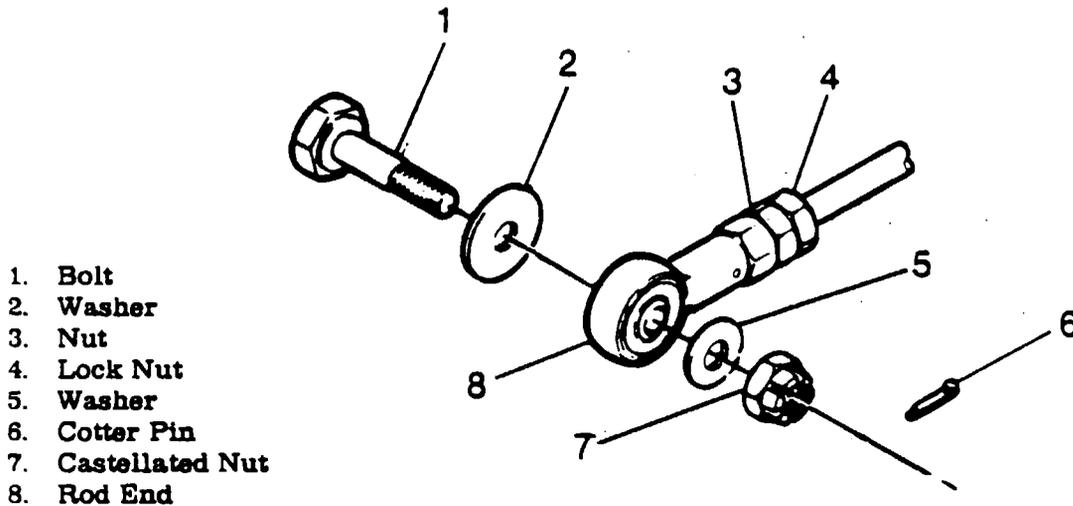

Figure 11-3. Control Cable End (Typical)
- 11-59. **DESCRIPTION.** The throttle, mixture, propeller, and carburetor heat controls are of the push-pull type. The mixture control is equipped to lock in any position desired. To move the control, the spring-loaded button, located in the end of the control knob, must be depressed. When the button is released, the control is locked. The mixture control also has a vernier adjustment. Turning the knob in either direction will change the control setting. The vernier is primarily for precision control setting. The throttle control has neither a locking button nor a vernier adjustment, but contains a knurled friction knob which is rotated for more or less friction as desired. The friction knob prevents vibration induced "creeping" of the control. The carburetor heat control has no locking device. Prior to 1979 Models the ball bearing-type rod ends on the throttle, mixture, and propeller control cable ends are secured to the engine with AN bolt, washers, and self-locking nut. Beginning with 1979 Models, the bolt is replaced with a pre-drilled AN bolt, and the self-locking nut is replaced with a castellated nut and cotter pin. (See figure 11-3.)
- f. See figure 11-3. Place larger washer (2) on bolt (1).
- g. Insert bolt (1) through hole in throttle lever from the INBOARD SIDE of throttle lever.
- h. Screw rod end (16) on threads of plunger (18), until hole in rod end bearing is aligned with end of bolt (1).